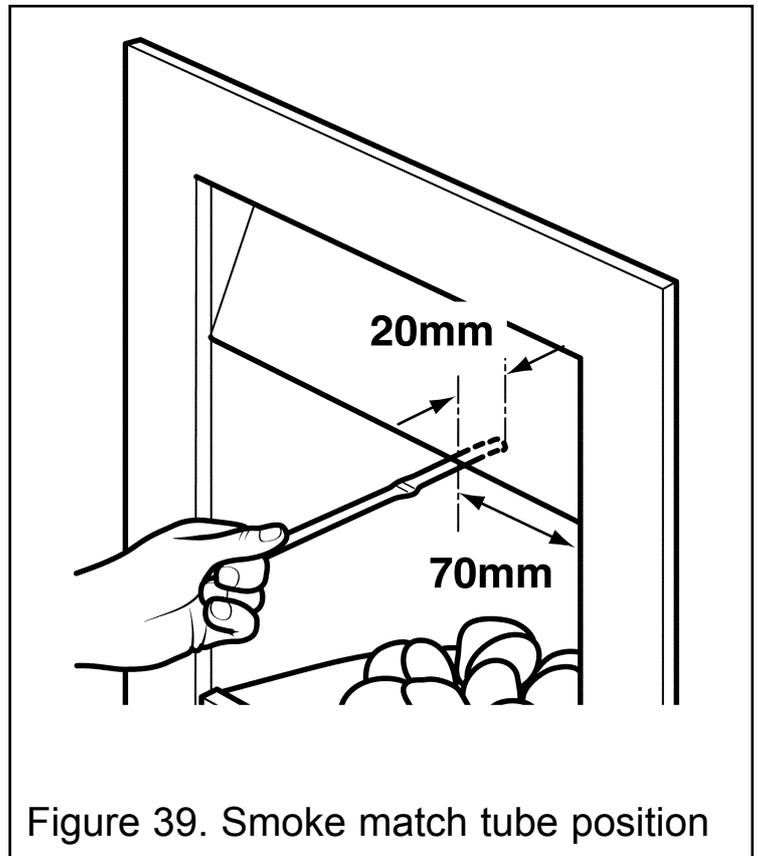

Figure 39. Smoke match tube position
4. The smoke match should be placed horizontally into the hotbox at the right hand side. (See figure 39).